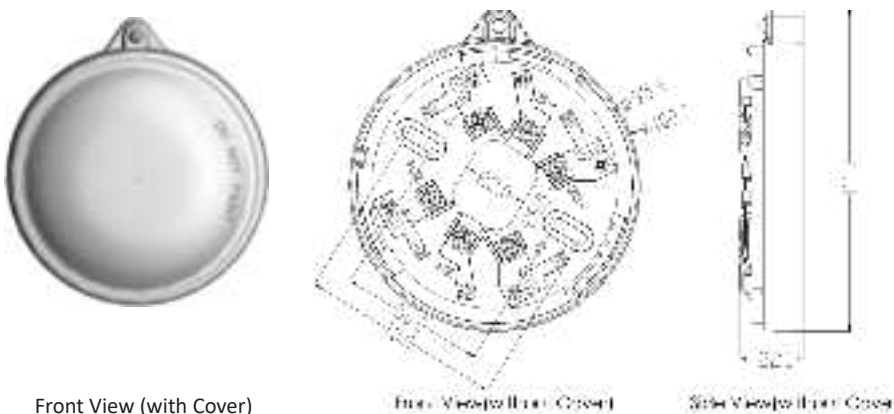

Figure 1 External view of Isolator base
1. The appearance of the Isolator Base is shown in Figure 1. Figure 1-a, 1-b and 1-c are front view with a cover, front view without a cover and side view without a cover, respectively.
2. As shown in Figure 1-b, "ZI+" and "ZI-" are the positive and negative terminals of the bus input. ZO+ and ZO- are the positive and negative terminals of the bus output. "L+" and "L-" are used to connect the remote-control lights.